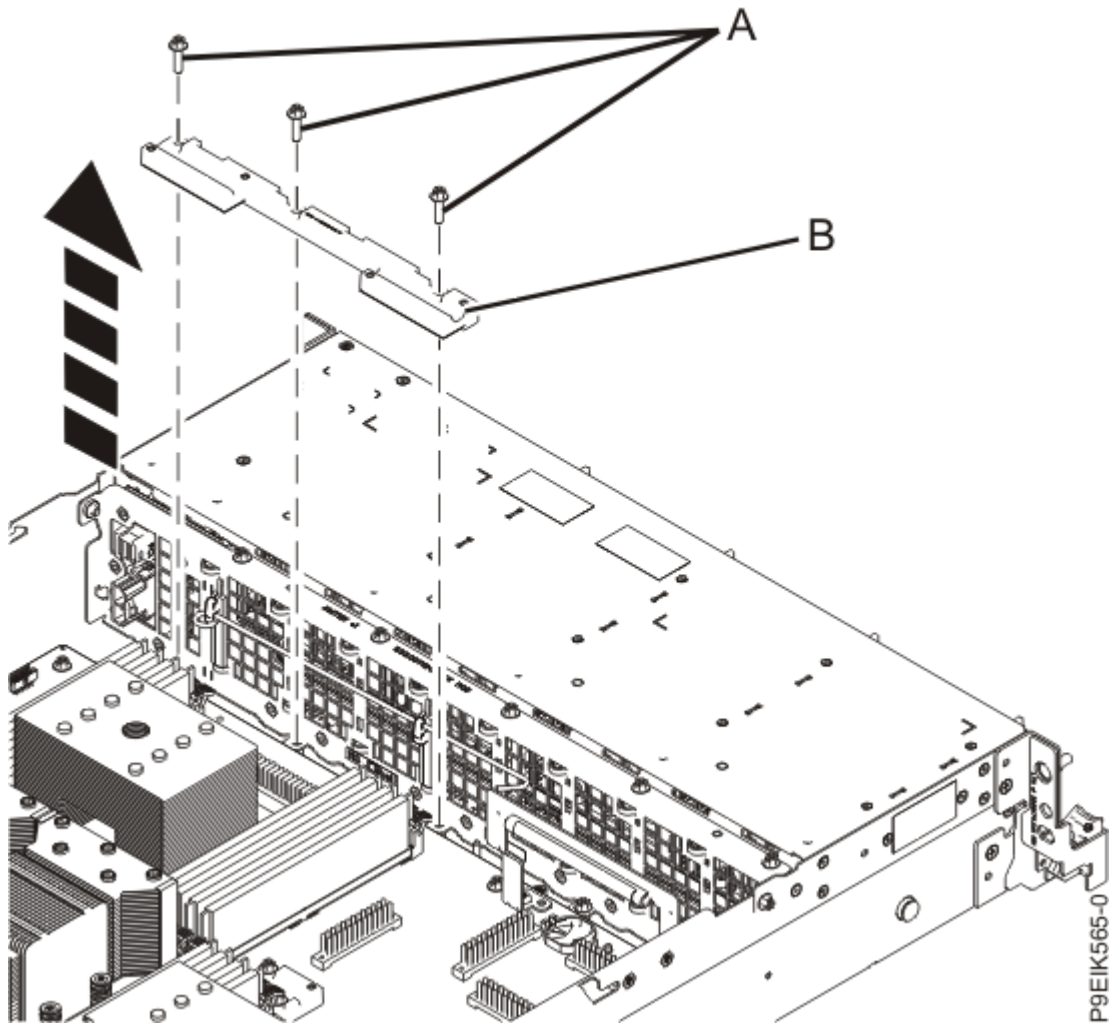

Figure 8. Removing the front holder
7. Remove the three screws **(A)** that secure the holder **(B)** to the system as shown in Figure 8 on page 13. Then, remove the holder from the system.